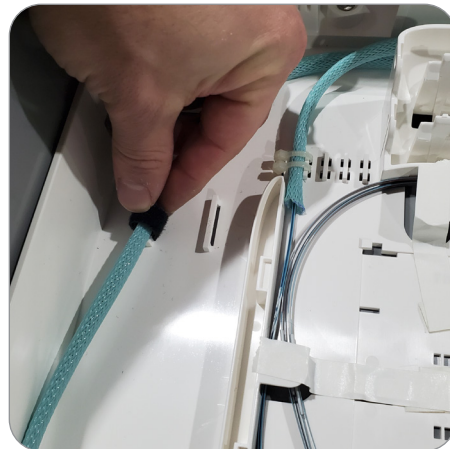

Figure 34
3. Remove pre-installed Velcro holding the sheathing on the right side of the box and place to the side (Figures 34 and 35).